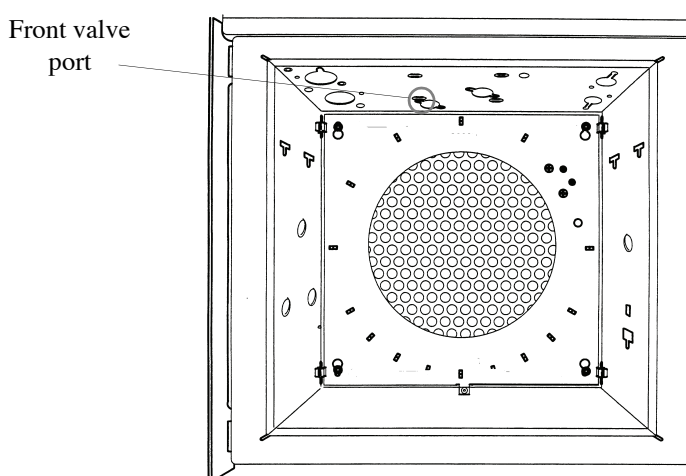

Figure 4.9. Inside the Agilent 6890 GC oven
3. Place a paper towel or tissue paper on the floor of the GC oven. From inside the oven, cut away the insulation covering the front valve port (Figure 4.9). The front valve port aligns with the hole on the PFPD valve box mounting plate (PN 296350). After cutting away the insulation, carefully remove all the insulation material debris and the paper towel.